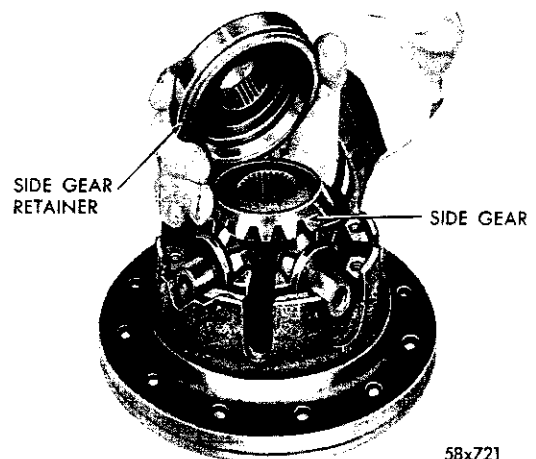
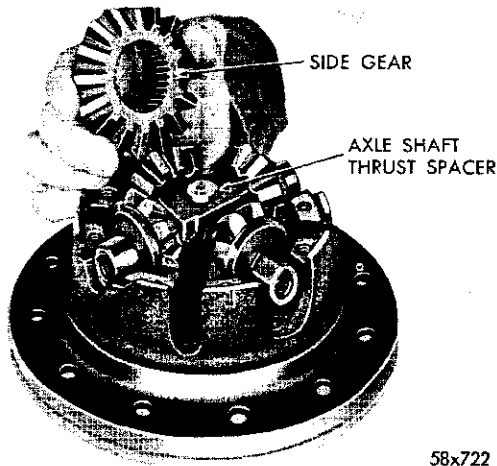

Fig. 35—Removing or Installing Side Gear Retainer (Cap Side)
Fig. 36—Removing or Installing Side Gear (Cap Side)
(3) Remove the side gear retainer (Fig. 35), and the side gear (Fig. 36).